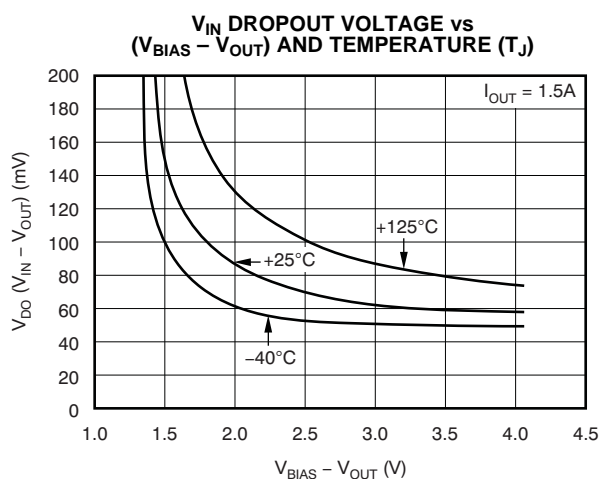

Figure 8.
(1) Adjustable devices tested at 0.8V; resistor tolerance is not taken into account.
(2) Dropout is defined as the voltage from V_{IN} to V_{OUT} when V_{OUT} is 3% below nominal.
(3) 3.25V is a test condition of this device and can be adjusted by referring to Figure 8
(1) 3.25V is a test condition of this device and can be adjusted by referring to Figure 8